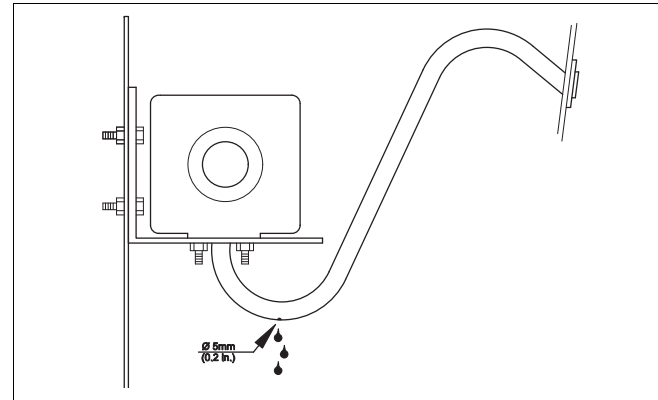

Fig. 27 Combustion air intake line not in direction of travel
- ▶ Drill a drain hole at the lowest point as illustrated in Fig. 27.